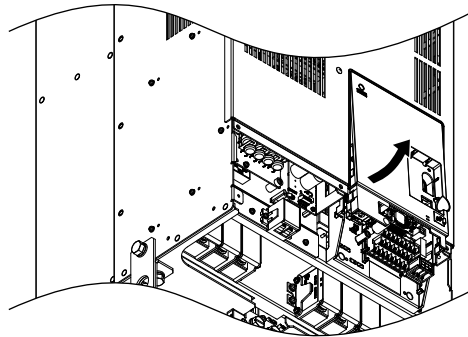

Figure 3.29 Remove the Front Cover (Drive Models 2□0154 to 2□0248 and 4□0156 to 4□0930)
4. Unhook the left side of the front cover then swing the left side towards you as shown in Figure 3.29 until the cover comes off.